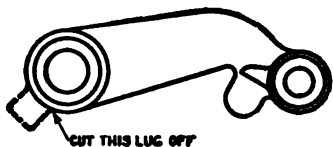

Fig. 131—Cut off lug on the fan bracket as indicated
- 3—Remove fan and fan bracket and cut off lug, as shown in sketch, Fig. 131.